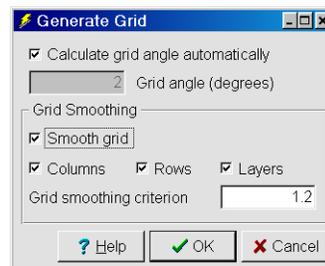
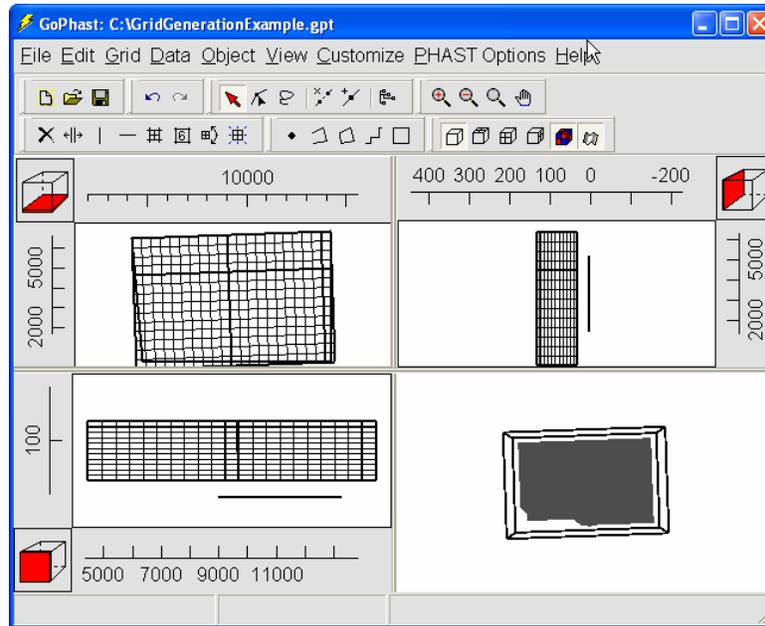

Figure 10. The **Generate Grid** dialog box.
Figure 11. Grid and objects.
2. The user selects **Grid|Generate Grid...** and the **Generate Grid** dialog box appears (fig. 10). When the user clicks on the **OK** button, the grid is created (fig. 11).